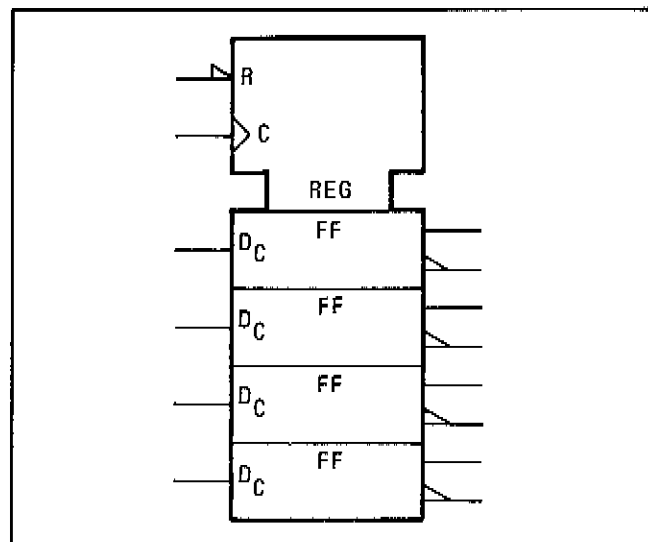

Figure 8-15. Quad D-Type Latch Example
Figures 8-15 through 8-17 show how the basic symbols can be combined in various ways to illustrate the behavior of fairly complex devices.
**8-72. Quad D-Type Latch.** Refer to Figure 8-15. The register control block is used to illustrate a quad D-type latch. There is a common active-low reset (R), and a common edge-triggered control input (C). Since there is only one dependency relationship, the controlling input is not numbered and the controlled function (D) is subscripted with a C.